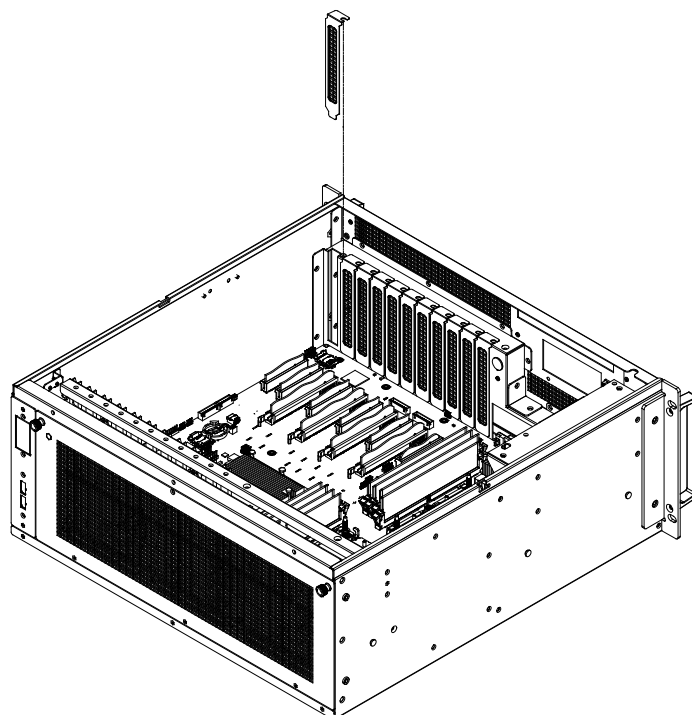

Figure 2.20 Release PCIe bracket/ 卸除 PCIe 槽片 / 卸除 PCIe 槽片
2. Release the screws on each PCIe bracket that plan to add PCIe cards. See Figure 2.20.